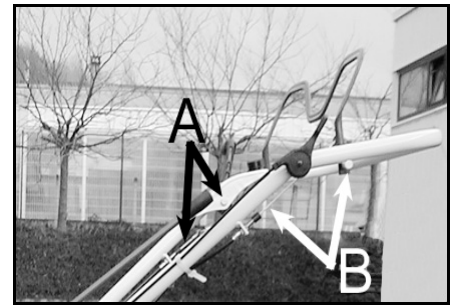

Figure 19
- Wires and control lever axles (A & B, Figure 19).